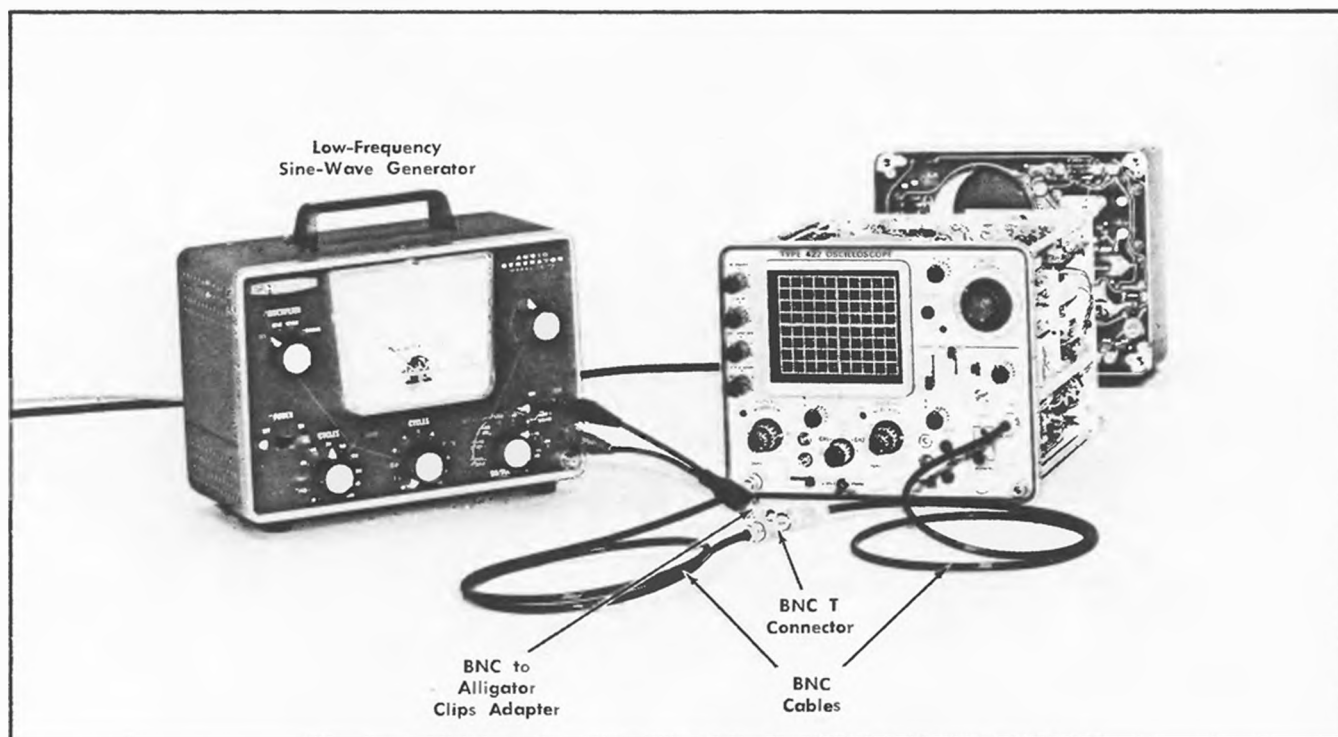

Fig. 6-39. Initial test equipment setup for steps 36 and 37.
a. Test equipment setup is shown in Fig. 6-39.